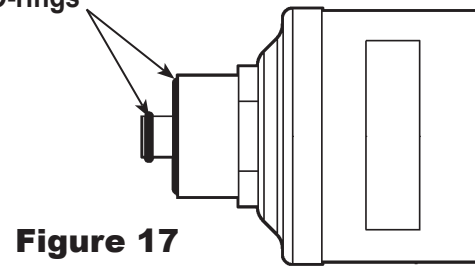

Figure 17
5. Look at the new filter—verify both o-rings are lubricated and correctly located in the grooves as shown in Figure 17.